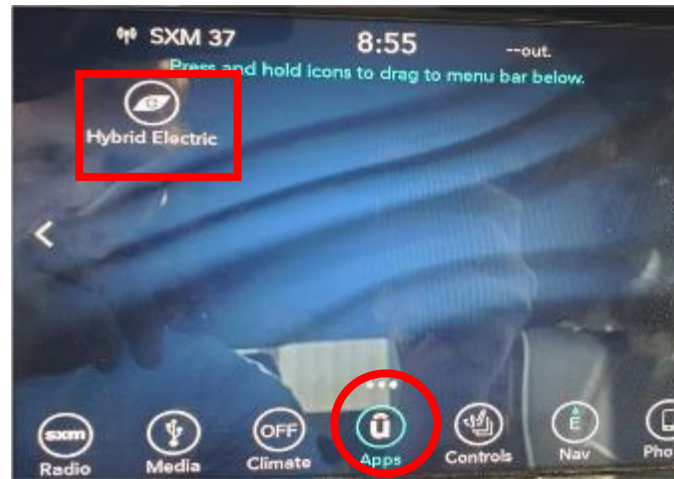

Figure 1 – Apps Display Screen
29. Select “Apps” then “Hybrid Electric” on the display (Figure 1).